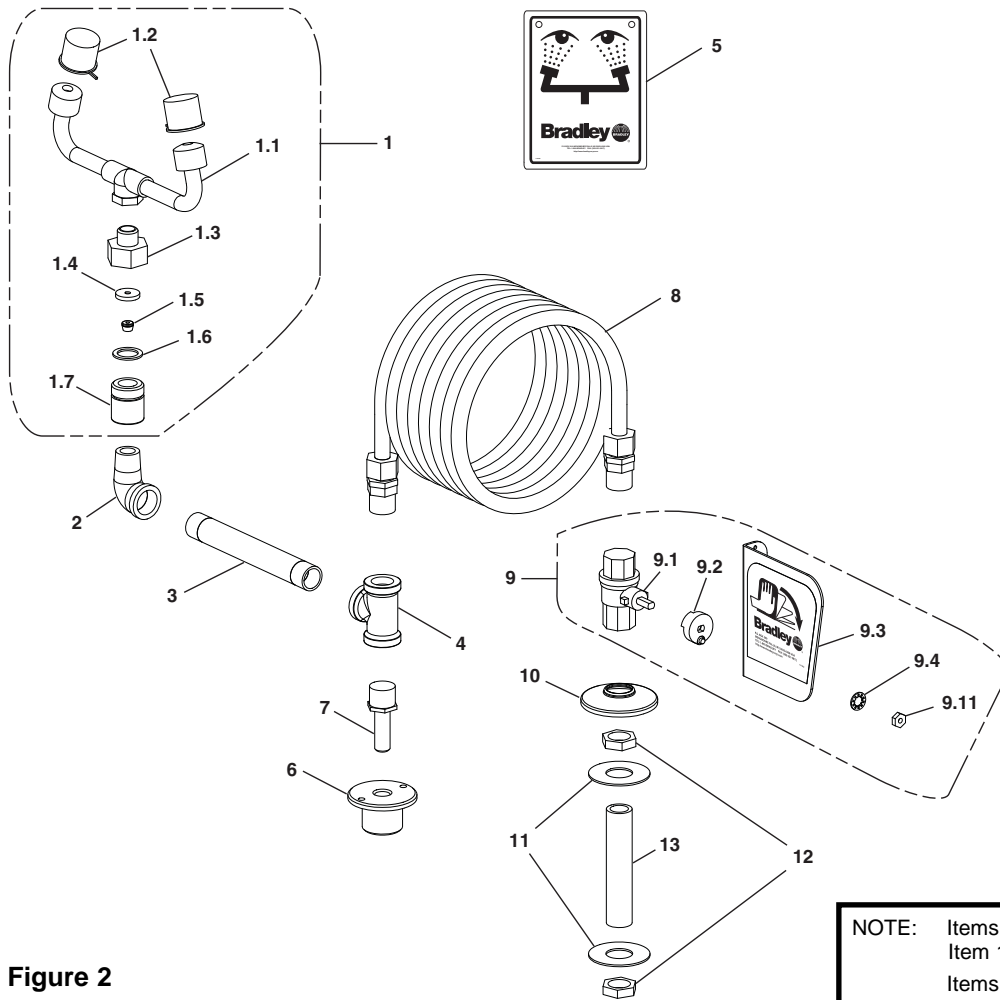

Figure 2
8. Attach the handle to the ball valve using the nut and lockwasher (refer to Figure 2 on page 4 for clarity).